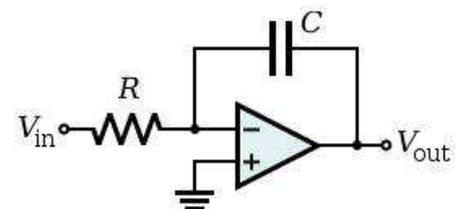

Figure 14
- 1- Construct the circuit shown in Figure 14 by using **$R=1K\Omega$ and $C=1\mu F$** .